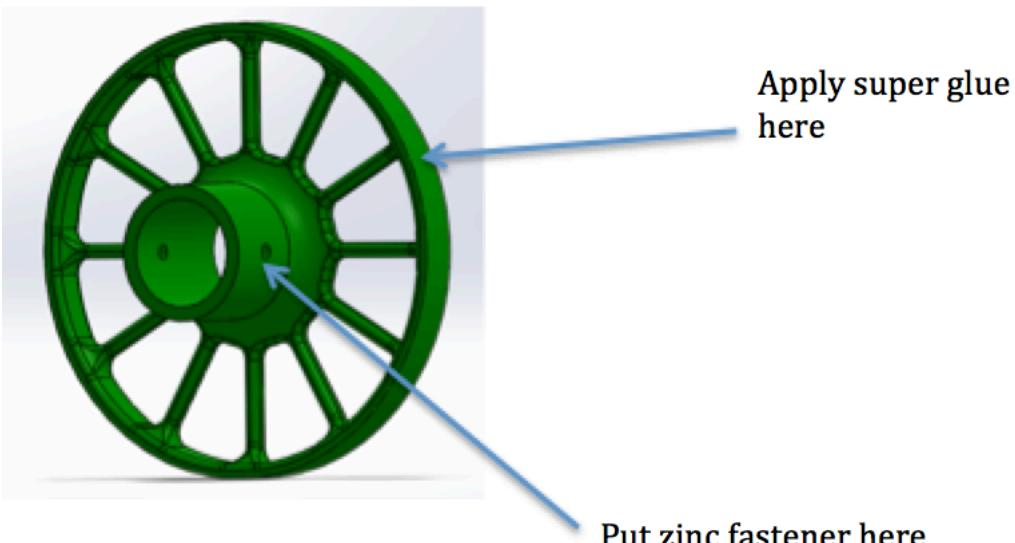

Figure 6: Explanation for how to secure PVC and cylinder to 3D part
13. Apply super glue on outer edge of 3D printed model shown in figure 6.
14. Wrap the plastic sheet around the outer edge of this model in figure 6.